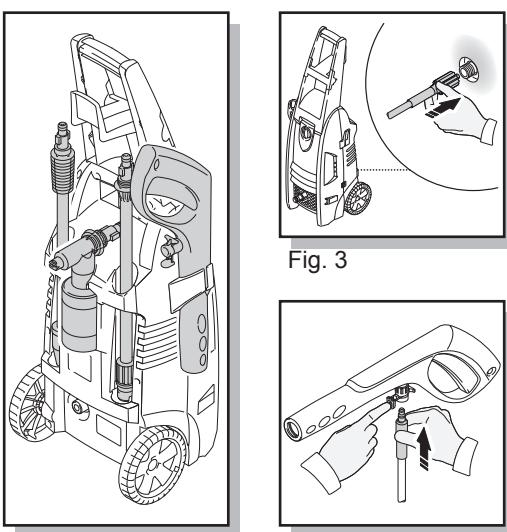

Fig. 2
- Please refer to (Fig. 2) for accessory storage locations on the power washer.